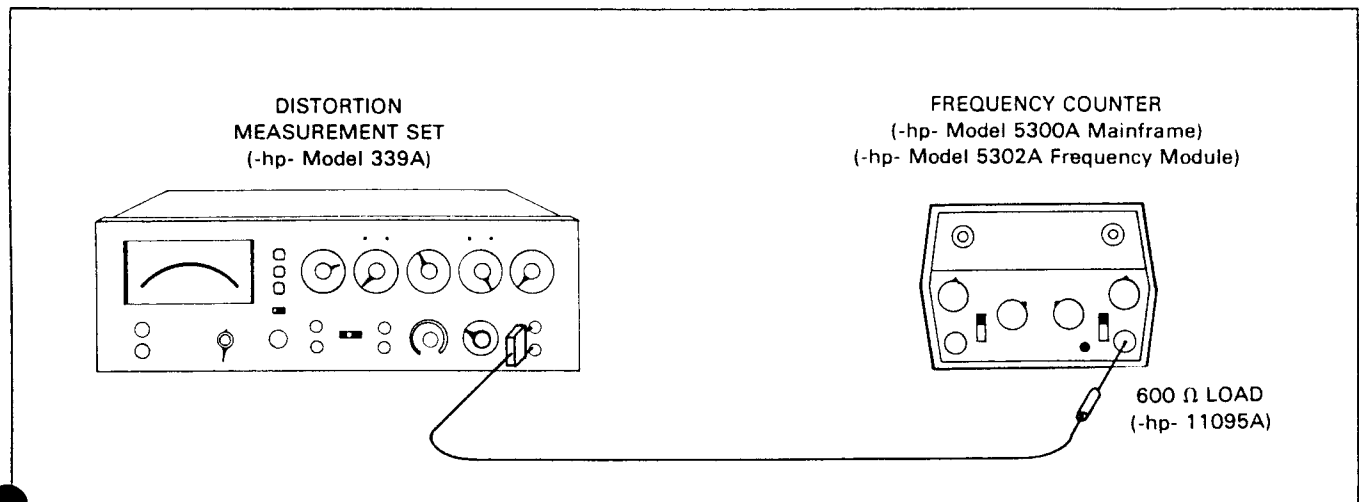

Figure 4-7. Oscillator Frequency Accuracy Test.
- b. Connect the equipment as shown in Figure 4-7.